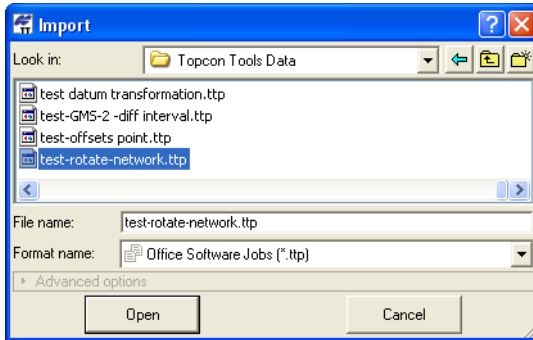

Figure 3-19. Import Topcon Tools Job
1. To import a Topcon Tools job on a computer into Topcon Tools, with a job open, either click **Job ► Import**, press **F3**, or click the **Import** button on the Toolbar (Figure 3-19).
- Click **Open** to import the file (Figure 3-19).